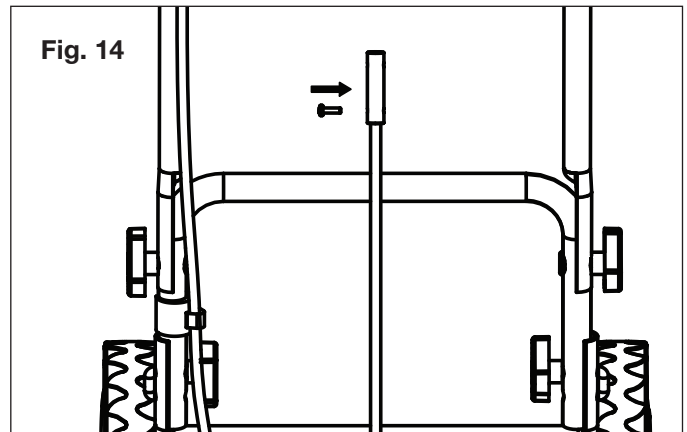

Fig. 14
5. Align the hole on the bottom of the crank rod connector with the hole in the lower crank rod, insert the first thumbscrew and turn clockwise to secure it (Fig. 14).